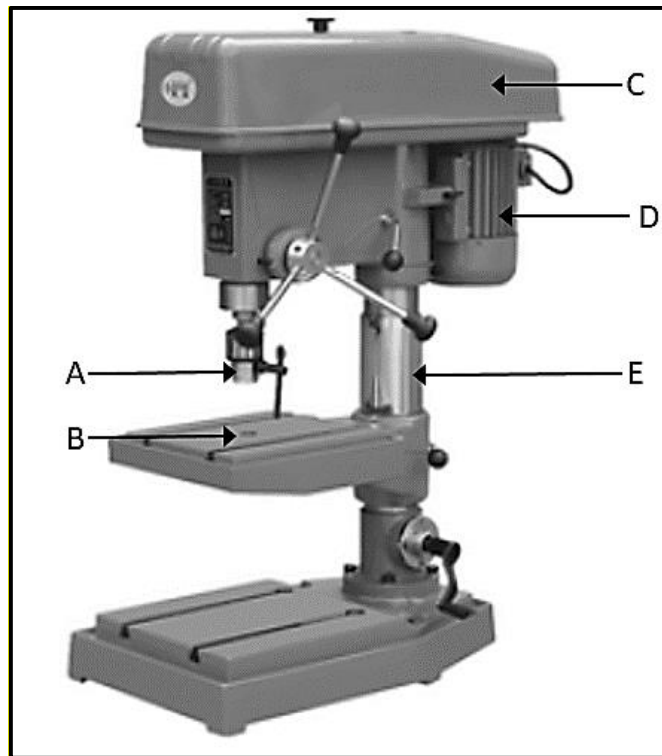

FIGURE 1
- 1.3 FIGURE 1, DIAGRAM SHEET A (attached), shows a pedestal drilling machine. Label the components indicated with the letters (A–E) and write only the answer next to each letter (A–E) in the ANSWER BOOK. (5)